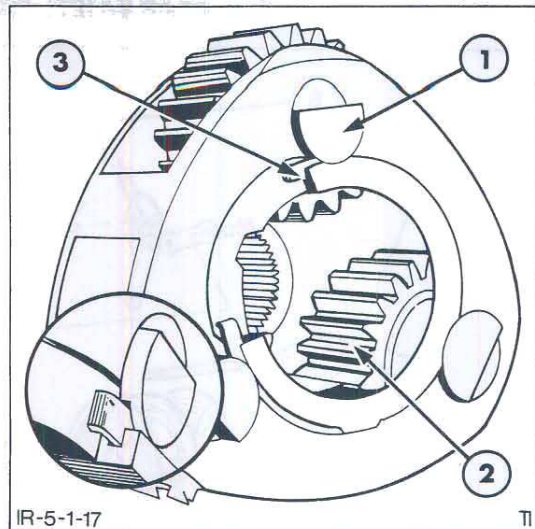

Figure 17
3. Insert all three planet gear shafts in the carrier housing. Position the shafts so that the flat portion of the shaft head is away from the centre of the carrier housing, Figure 17.